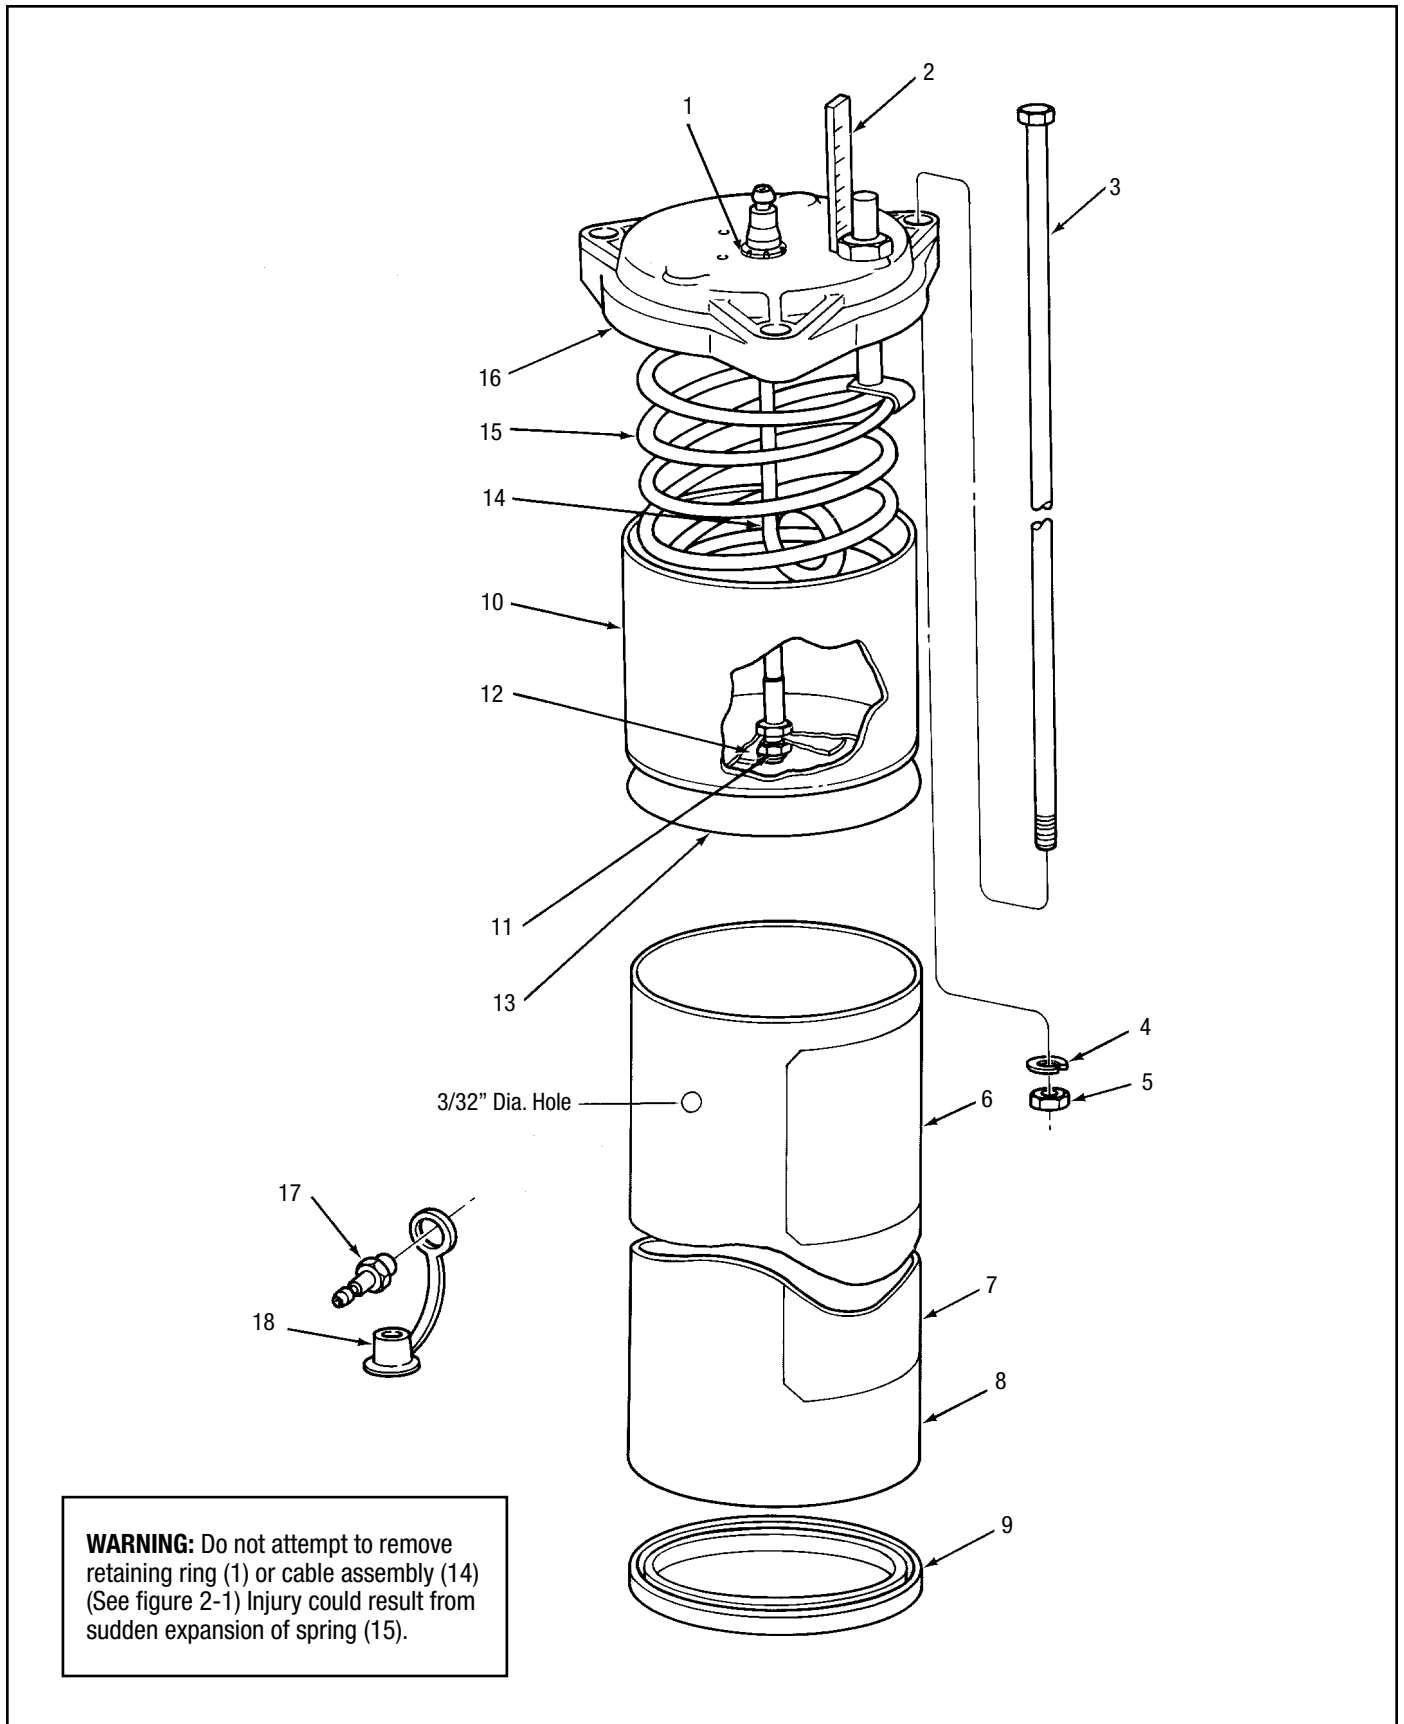

Figure 2-1. Grease Reservoir Assembly (GPA, GPB, GMA and GMB) - Exploded View
2.3.1 General. Maintenance tips and disassembly and assembly procedures for grease reservoirs are discussed in Paragraphs 2.3.2, 2.3.3 and 2.3.4. Exploded views of typical grease reservoirs are shown in Figures 2-1 and 2-2 and should be referred to during the discussion
- a. Visually inspect the reservoir for lubricant leaking between reservoir tube (8, Figure 2-1) and pump. This may indicate a bad gasket (9) or that the hex nuts (5) are not tight. Torque the nuts to 5 ft-lbs. If leakage continues, replace gasket (9). Check for cracks and nicks in tube (8). Replace the tube as required.
- b. Visually inspect the reservoir tube (8) for dents or an out-of-round condition which may restrict the movement of the follower cups (10 and 13). Replace the tube as required.
2.3.3 Disassembly of Grease Reservoirs. Figure 2-1 shows a typical grease reservoir but does not include other LUBEMASTER components which may be mounted to the reservoir. Disassembly of the reservoir may require that some of these components be removed. Level and blowout switches may or may not require removal, depending on the level of disassembly required. The electrical connections to the switches probably should be disconnected in order to remove various parts without restriction of movement by the electrical cord. Removal of these components is explained in other sections of the manual. Refer to the table of contents to find where the components are discussed.
WARNING: Do not attempt to remove retaining ring (1) or cable assembly (14) (see figure 2-1). Injury could result from sudden expansion of spring (15).
- a. Slowly open reservoir drain and allow lubricant to be forced from the reservoir into a bucket or similar container. Remove fill stud (17) if necessary. Properly dispose of emptied grease.
- b. Remove hex nuts (5) and lockwashers (4) from tie rods (3). Remove tie rods from reservoir cap (16).
- c. Lift reservoir tube (8) from pump keeping reservoir cap (16) in position on top of the tube.
- d. Slide reservoir tube (8) away from reservoir cap (16) until it is free of follower cups (10 and 13).
- e. Remove gasket (9) from pump.
- f. Further disassembly is only possible at the factory. If damage is apparent on the follower cups (10 and 13), cable assembly (14), spring (15) or reservoir cap (16) the unit cannot be serviced and the reservoir assembly must be replaced.
- a. Slide reservoir tube (8, Figure 2-1) over follower cups (10 and 13) being careful not to distort the follower cup lips. Slide reservoir tube up until it contacts reservoir cap (16).
- b. Install new gasket (9) on pump.
- c. Place reservoir tube (8) on gasket (9) and rotate reservoir cap (16) until holes in the cap line up with holes in the pump.
- d. Install tie rods (3) through holes in reservoir cap (16) and pump.
- e. Install lockwashers (4) and hex nuts (5) on tie rods (3) and torque to 5 ft-lbs.
- f. Install fill stud (17) and dust cap (18) in pump.
2.3.5 Grease Reservoir Parts Lists. Table 2-2 identifies the parts indexed in Figure 2-1.
TABLE 2.2 GREASE RESERVOIRS GPA, GPB, GMA AND GMB (FIGURE 2-1) PARTS LIST